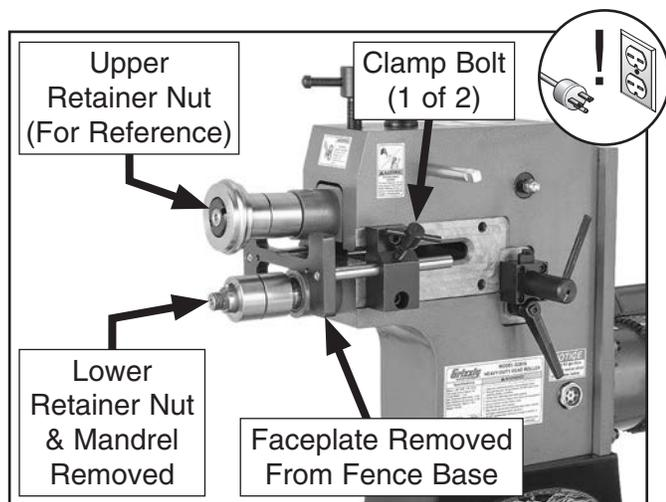

Figure 16. Location of clamp bolts; lower retainer nut, mandrel, and faceplate removed.
2. Use retainer nut spanner wrench to remove lower retainer nut, then remove lower mandrel (see **Figure 16**).
3. Remove faceplate from fence base (see **Figure 16**).
4. Remove two clamp bolts (see **Figure 16**) from clamp blocks (one on each side of machine).